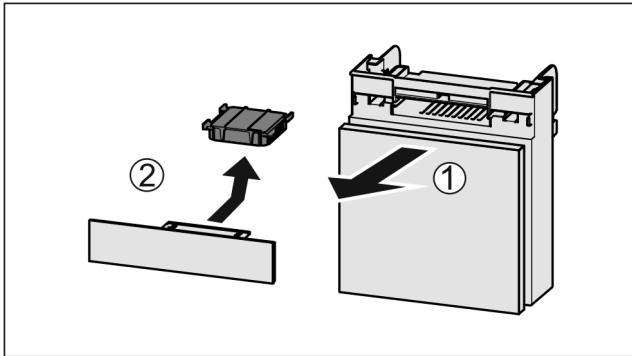

Fig. 140
- ▶ Pull out the compartment Fig. 140 (1).
- ▶ Remove the carbon filter Fig. 140 (2).